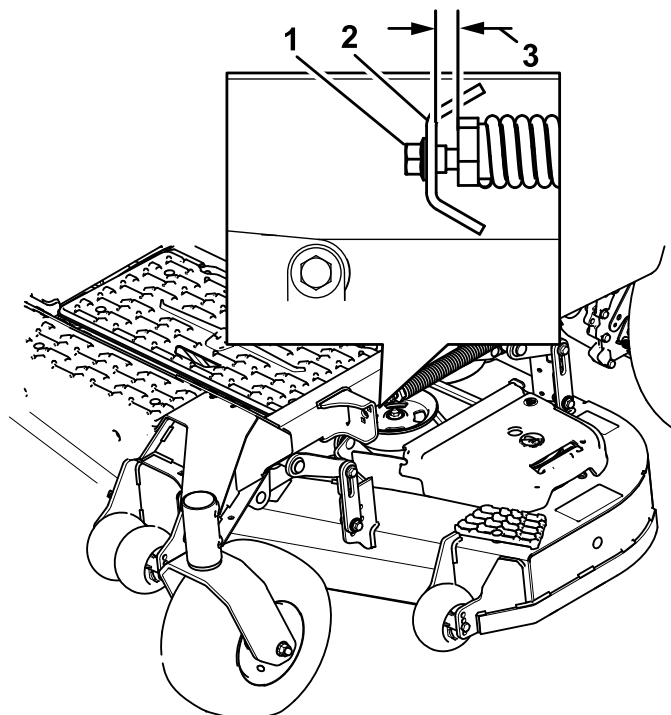

Figure 96
10. Slowly loosen the adjusting screw on the lift-assist spring until you can remove the screw (Figure 96).